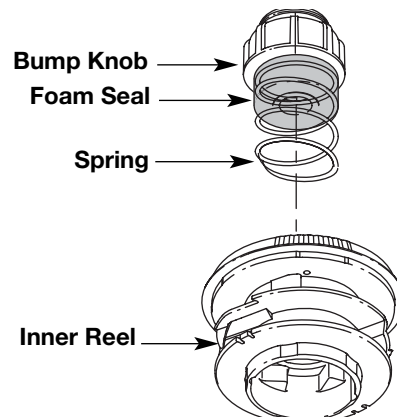

Fig. 21
1. Turn the bump knob counterclockwise and remove the bump knob, spring and foam seal (Fig. 21).
4. Hold the inner reel in place and install the bump knob, spring and foam seal. Press down and turn the bump knob clockwise. Grasp the ends and pull firmly to release the line from the holding slots in the inner reel (Fig. 21).
2. Pull out the bump knob, spring and foam seal (Fig. 21).
6. Place the bump knob, spring and foam seal into the inner reel (Fig. 21).